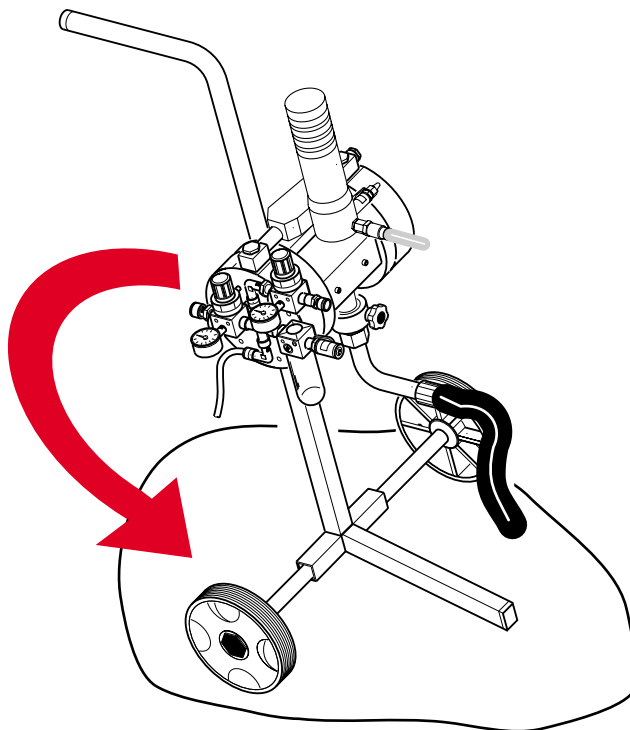

Fig.36
- 2) Check to make sure that the pump is in a stable position to avoid it falling (fig. 36).